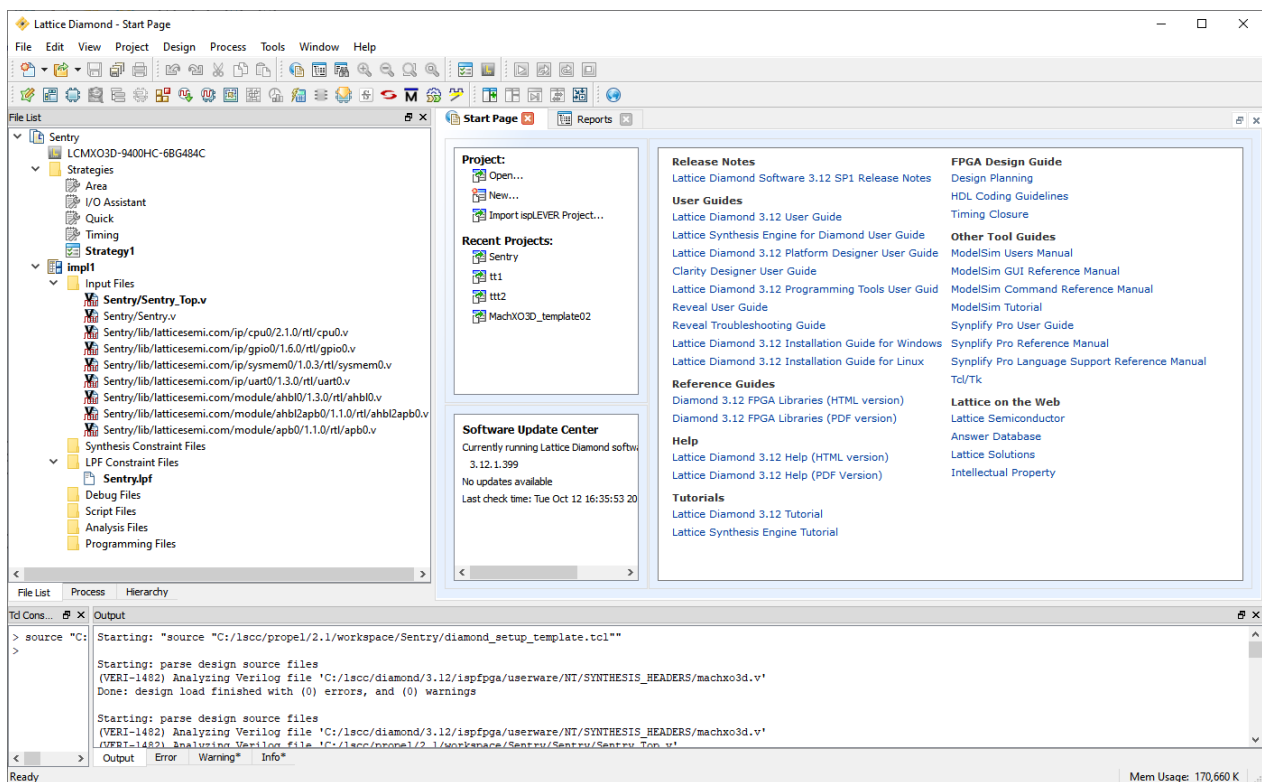

Figure 2.113. Diamond Project
- Lattice Diamond is launched with a Diamond project generated for SoC at the background (Figure 2.113).